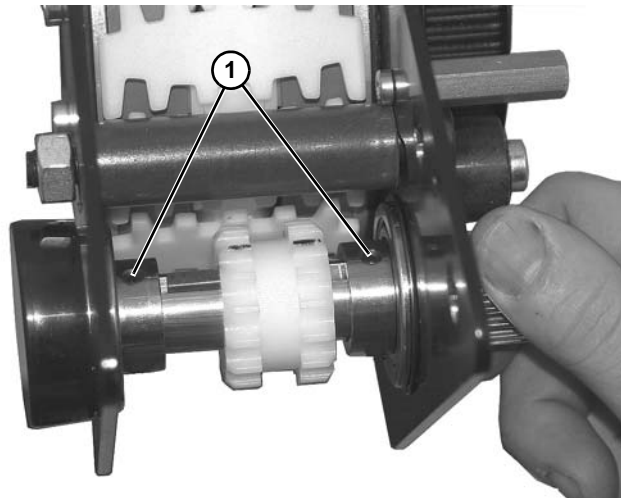

Figure 171
2. Secure drive shaft onto bearings with two set screws (Figure 171, item 1).